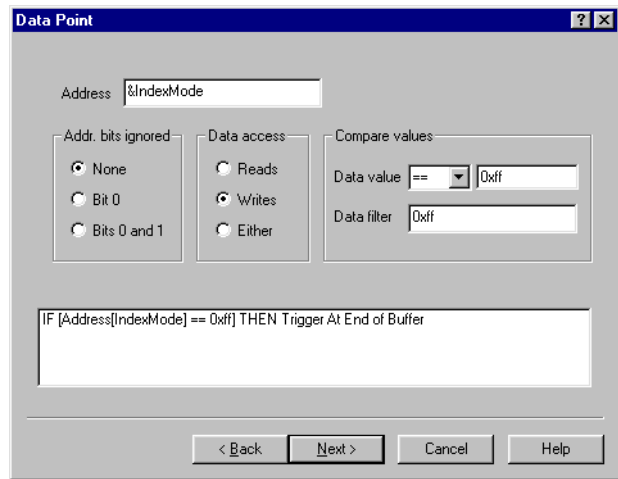

Figure 8-11 Data Point dialog box
5. Click on **Next>**. The Data Point dialog box shown in Figure 8-11 on page 8-14 is displayed.